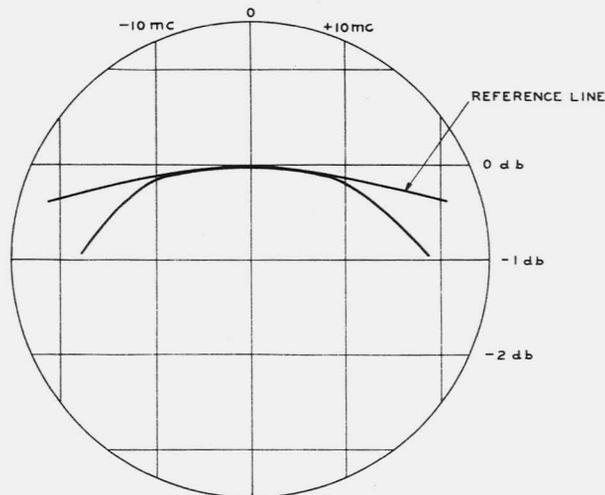
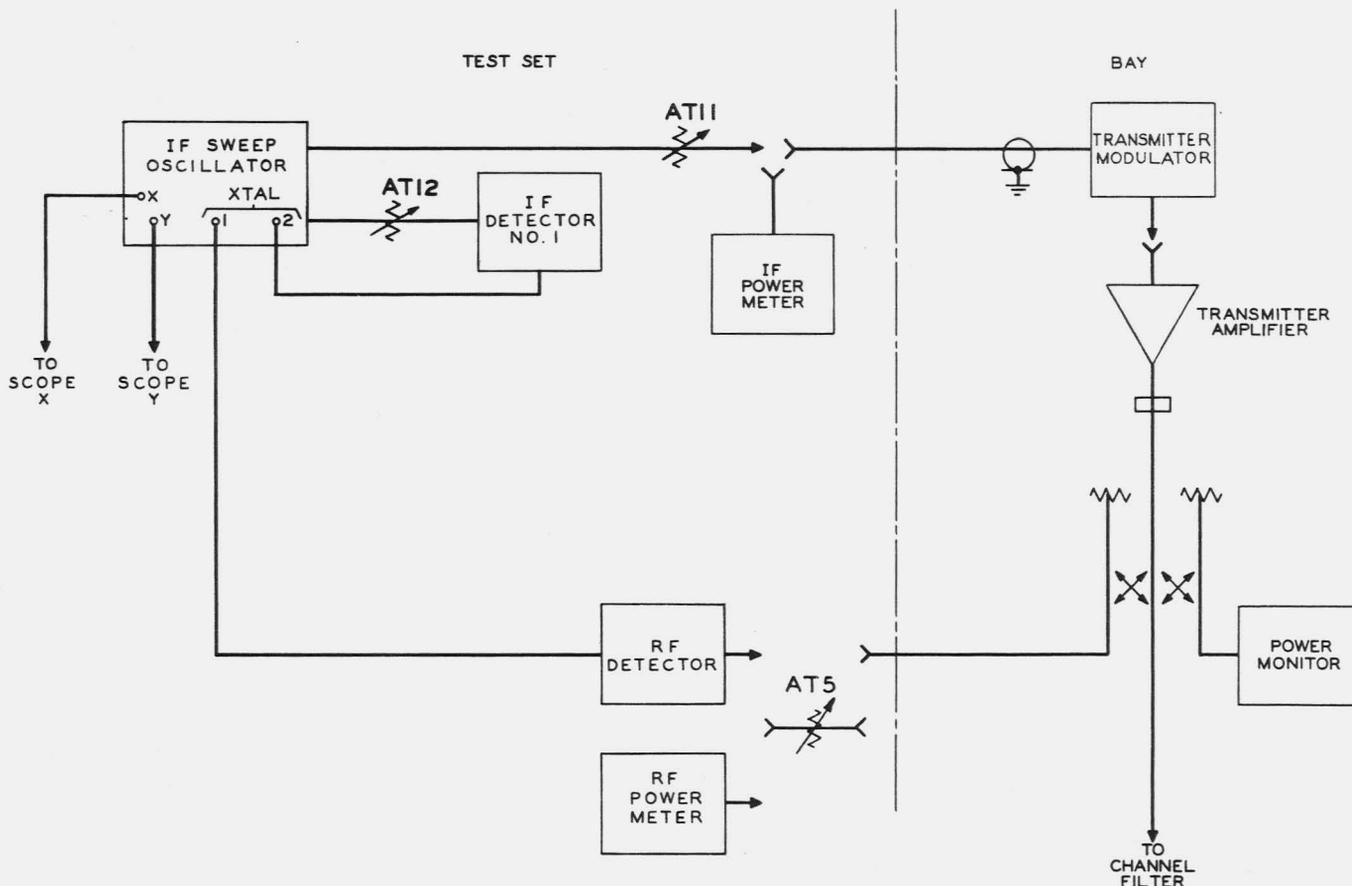

Fig. 2 - Typical Scope Presentation of Transmission Characteristic
Fig. 3 - Arrangement for Gain-frequency Test from Transmitter Modulator Input to Transmitter Amplifier Output
(10) Connect RF detector No. 2 to the output of the bay coupler, and adjust ADJ XTAL 1 to bring the two traces on the scope together. (If necessary, connection to XTAL 1 and XTAL 2 may be reversed.)
(11) Increase AT3 to the value noted in (9) and set the vertical scope gain to make the separation of the traces equal to one inch. Return AT3 to 0 db. The traces should coincide within 0.05 inch. If not, repeat (10) and (11).
(12) Turn on the sweep and adjust the horizontal gain to give a convenient display such as 10 mc per inch.
(13) The scope picture should be similar to Fig. 2.
as in Fig. 3. Remove the waveguide termination from the output directional coupler by means of the quick-clamp.
(9) Turn on the sweep and adjust the horizontal gain to give a convenient display such as 10 mc per inch, using the wavemeter dip on the reference trace.
(10) The scope picture should be similar to Fig. 2.
- (1) Set up the equipment as shown in Fig. 3, with the modulator disconnected from the transmitter amplifier.
- (2) Connect the output of the modulator to AT5 and connect AT5 to the RF power meter.
- (3) Set AT5 to 8 db, set the IF sweep oscillator to 70 mc with the sweep OFF, and adjust AT11 to make the RF power meter read $+2 \pm 0.5$ dbm.
- (4) Remove the power meter and connect the RF detector in its place.
- (5) Adjust AT12 and ADJ XTAL 1 to make the two traces on the scope coincide.
- (6) Increase AT5 by 1 db and adjust the vertical scope gain to make the trace separation equal 1 inch.
- (7) Return AT5 to its original setting; the two traces should coincide within 0.05 inch. If not, repeat (5), (6) and (7).
- (8) Operate the sweep to ON and adjust the horizontal scope gain to give a display of 10 mc per inch.
- (9) The scope picture should be similar to Fig. 2.
- (10) Adjust the output tuner for optimum flatness.
- (8) Connect the RF power meter to the output of AT5.
- (9) Operate the CONT key on the receiver control unit to MAN and adjust the MAN gain control to make the power meter reading +2 dbm.
- (10) Remove the power meter and connect RF detector No. 2 in its place.
- (11) Adjust ADJ XTAL 1 to make the two traces on the scope coincide.
- (12) Increase the setting of AT5 by 1 db and adjust the vertical scope gain to make the trace separation equal 1 inch.
- (13) Return AT5 to its original setting; the two traces should coincide within 0.05 inch. If not, repeat (11), (12), and (13).
- (14) Operate the sweep to ON and adjust the horizontal scope gain to give a display of 10 mc per inch.
- (15) The scope picture should be similar to Fig. 2.
- (16) Adjust the output tuner for optimum flatness.
- (1) Proceed as in 2.09, (1) through (5), including note.
- (2) Set the CONT switch on the receiver control unit to MAN.
- (3) Connect the IF main amplifier output to the IF detector input using the shortest patch cord (approximately 1 foot).
- (4) Adjust MAN gain and ADJ XTAL 1 to make the two traces coincide on the scope.